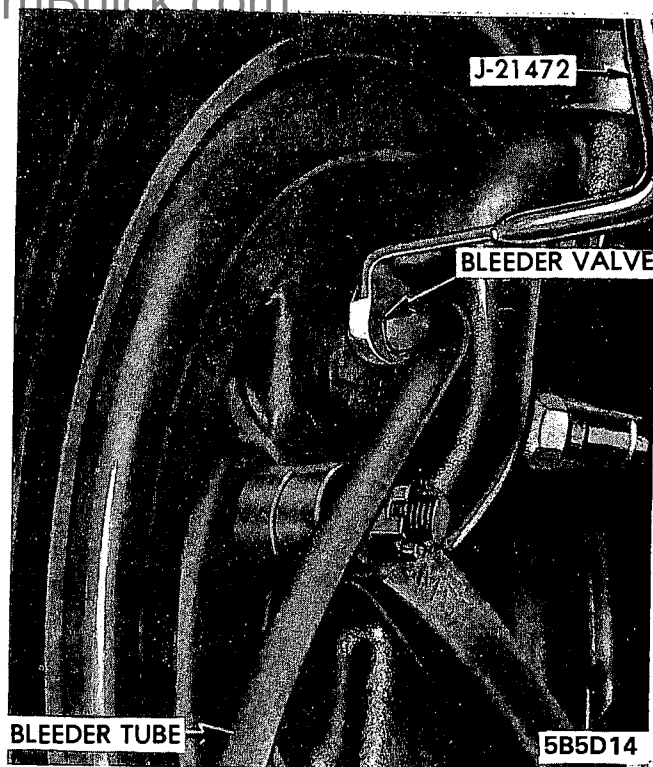

Figure 5D-14 Bleeding Wheel Cylinder
2. With the proper size Box End wrench or tool J-21472 over bleeder valve, attach bleeder tube to valve and allow tube to hang submerged in brake fluid in a clean glass jar. See Figure 5D-14.